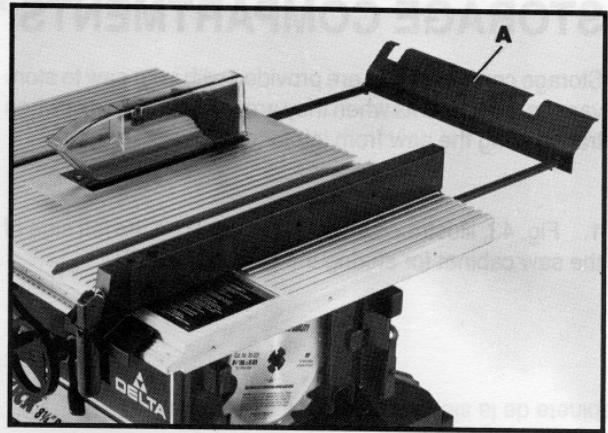

Fig. 41
The rear work support (A) Fig. 41, slides in or out at the rear of the saw table. The top of the support (A) is the same height as the saw table and supports the workpiece while it is being cut and prevents it from falling off the rear of the table.